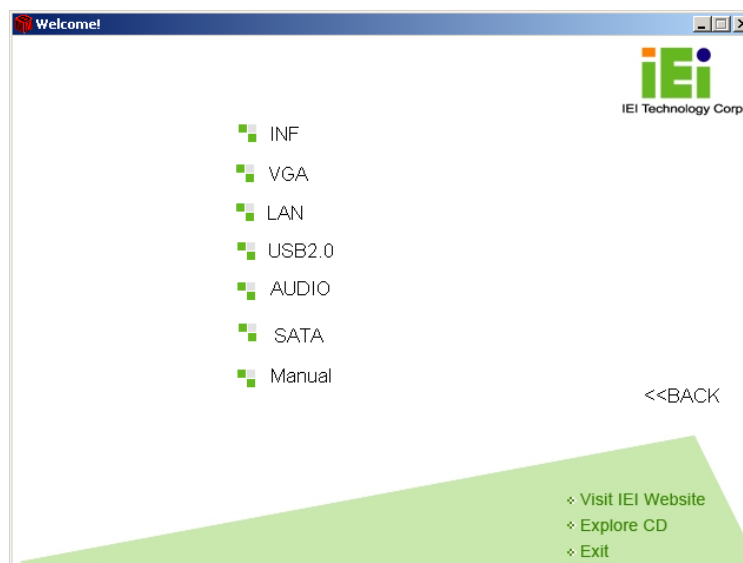

Figure 7-2: Available Drivers
Step 4: A new screen with a list of available drivers appears (**Figure 7-2**).
Step 5: Select the driver to install from the list in **Figure 7-2**. Detailed driver installation instructions follow below.
Step 6: Select **INF** from the list in **Figure 7-2**.
Step 1: Select the **VGA** driver from the list in **Figure 7-2**.
Step 1: Select the **LAN** driver from the list in **Figure 7-2**.